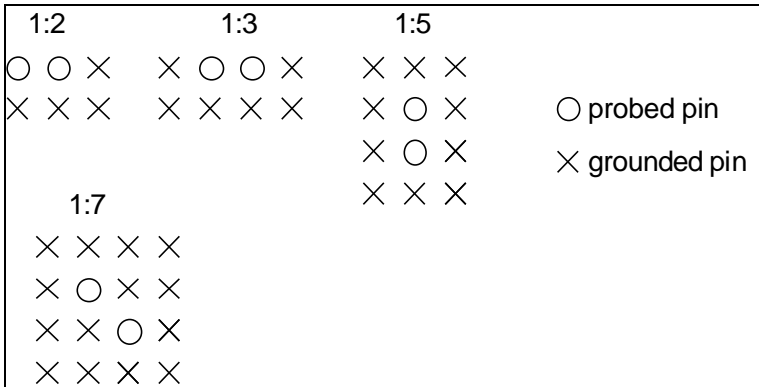

Figure 5 – Signal to ground ratio setup
1. The bandwidth for the BGA socket (0.80mm Test Center Probe Contact) was determined from a loop-thru measurement on two adjacent pins with varying numbers of surrounding pins grounded (please see figure 5 and table 2).